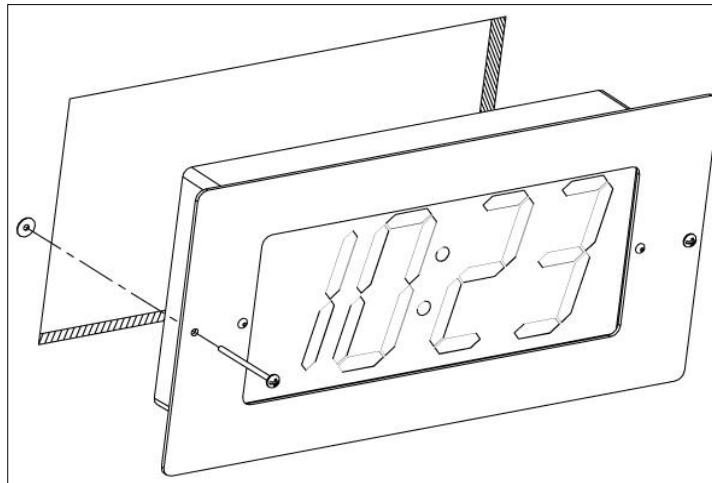

Figure 11: Clock/Recessed Mount Assembly
8. Place the clock/recessed mount assembly in the hole and re-install the screws, as seen in Figure 11.